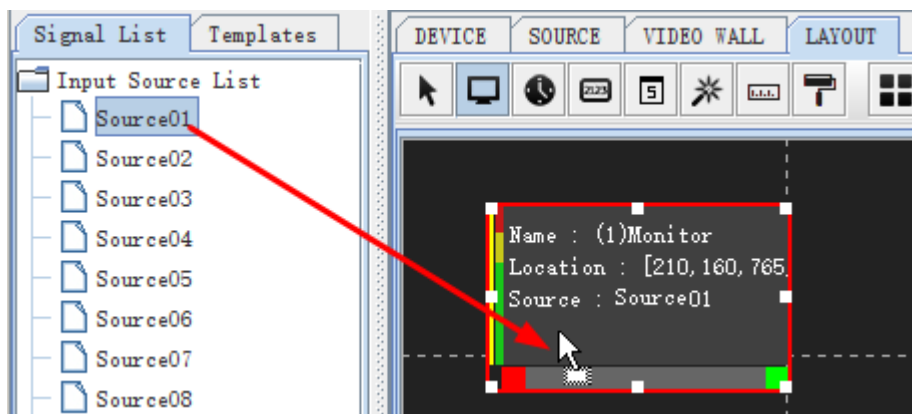

Figure 2.3-17 Signal Source for a Monitor Element
- **Input Source List:** It provides the available signal sources for the monitor elements. Click and drag a signal source from the sources list in system pane to a target monitor element in working area, thus to establish the one to one relationship, as shown in **Figure 2.3-17**: